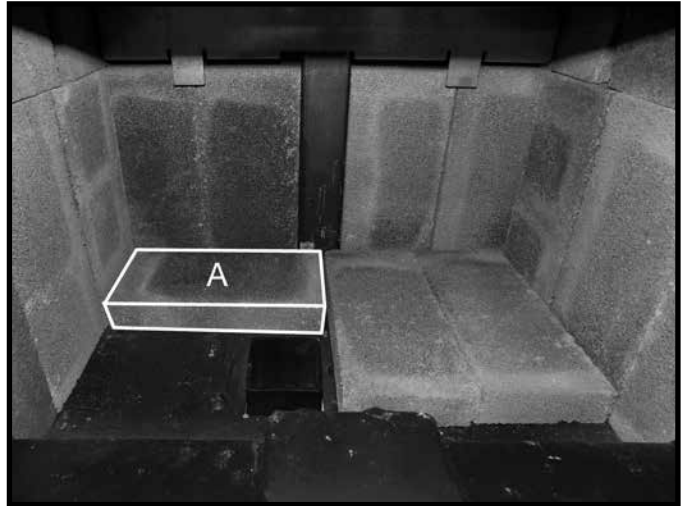

Figure 20. Third floor brick in place.
- Place a third "A" firebrick against the rear wall as shown in Figure 20. on page 15